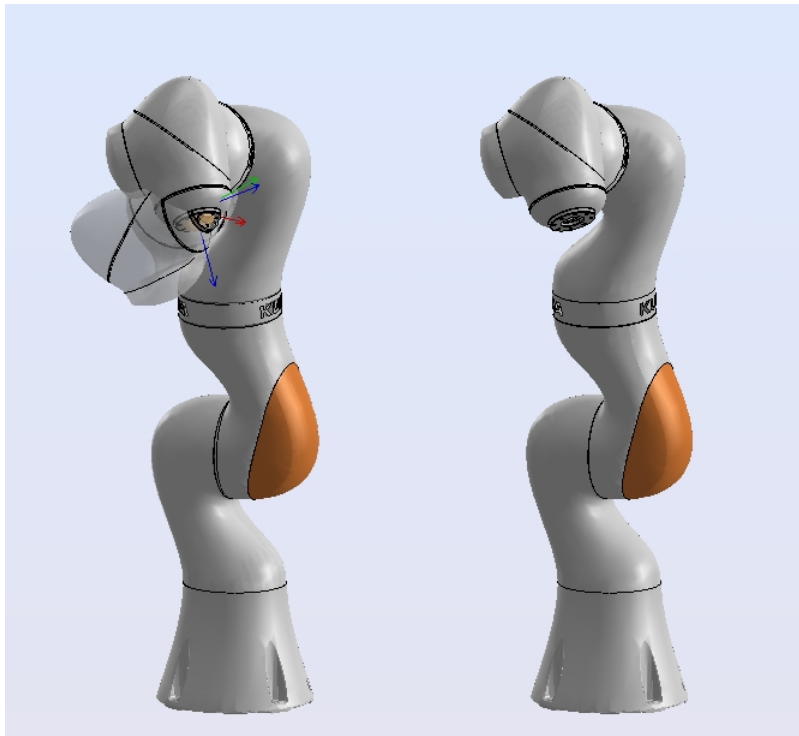

Fig. 12.2: Precise hand-guiding (a) second motion group (b) second motion group
2. Second motion group, Fig. 12.2 (a): in this case the operator can orient the axis of EEF by applying a moment, while the position of the EEF is kept fixed.
3. Third motion group, Fig. 12.2 (b): in this case the user can rotate the EEF of the robot round its axis.
The second motion group is demonstrated in Fig. 12.2 (a), in this mode the user can rotate the axis of the EEF by applying a moment, when the EEF is rotated its position stays fixed. The third motion group is demonstrated in Fig. 12.2 (b), in this motion group the user can rotate the EEF around its axis by applying a torque around EEF's axis.